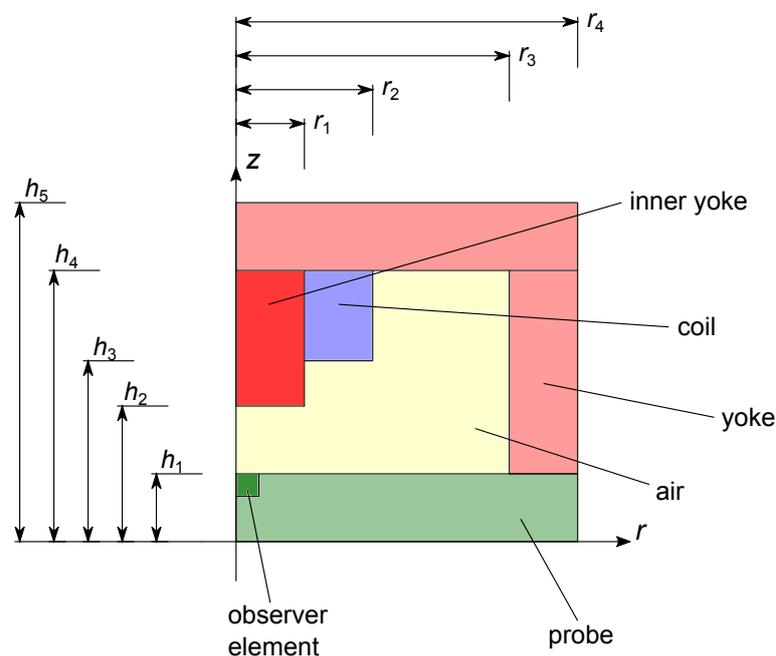

Figure 1: Magneto-mechanical setup used to investigate eddy currents and Lorentz forces.
The axi-symmetric setup to be investigated is shown in Fig. 1. It consists of an iron yoke, a copper coil and a probe made of different materials. The inner space between yoke and probe is filled with air. An outer air region surrounding the setup can be neglected as the magnetic flux is assumed to be concentrated inside the yoke.
- 2.3. Model the geometry as depicted in Fig. 1. Make sure that the “air” domain is not a rectangle. It should rather have the geometry as seen in the figure. You can achieve this by first modeling a rectangle and then using a *Difference* node to “cut out” the areas that you do not need.